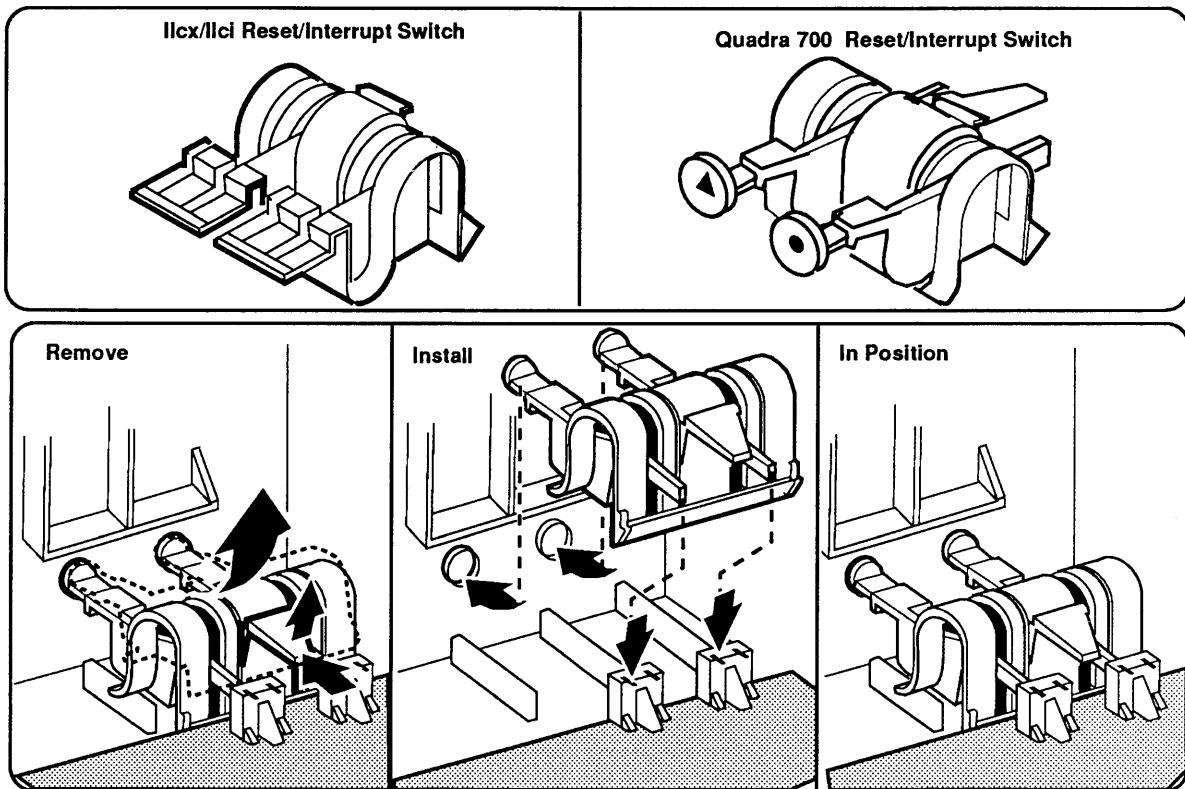

Figure 2-14 Reset/Interrupt Switch
1. Using one finger, lift up on the center tab of the switch (**Figure 2-14**). This action releases the switch from the logic board.
Insert the front of the switch (**Figure 2-14**) down and into the two slots at the right-front bottom of the case. As the tabs on the front of the switch go into the slots, push the rest of the switch down until it snaps under the edge of the main logic board.